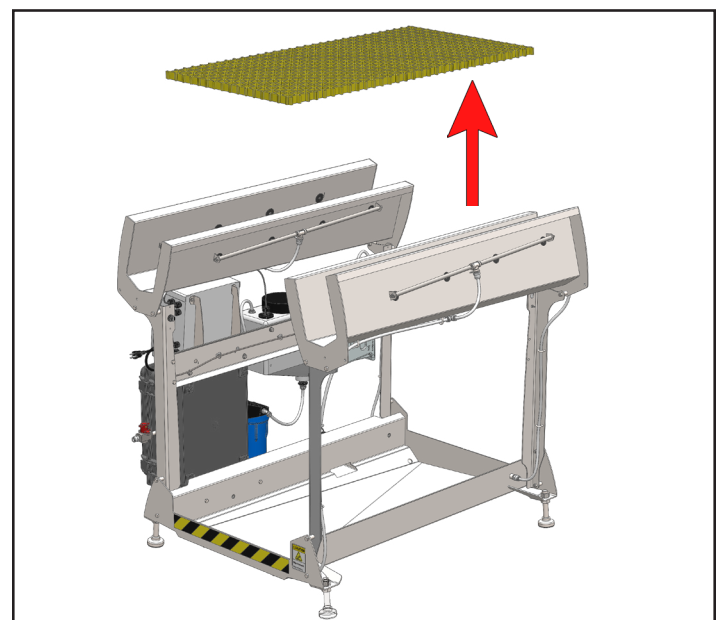

Fig. 9.3: Removing foot grate
5. If necessary, remove the yellow walkway grate to allow better cleaning of the tub [Figure 9.3].